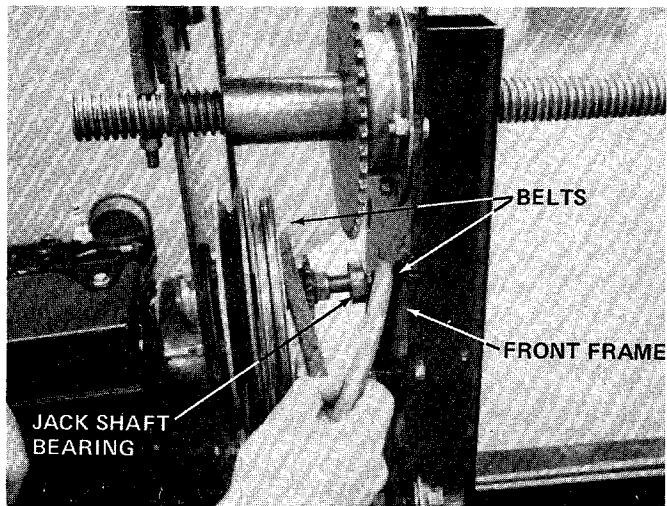

FIGURE 15
12. Slip belts between jack shaft bearing and front frame. See figure 15.